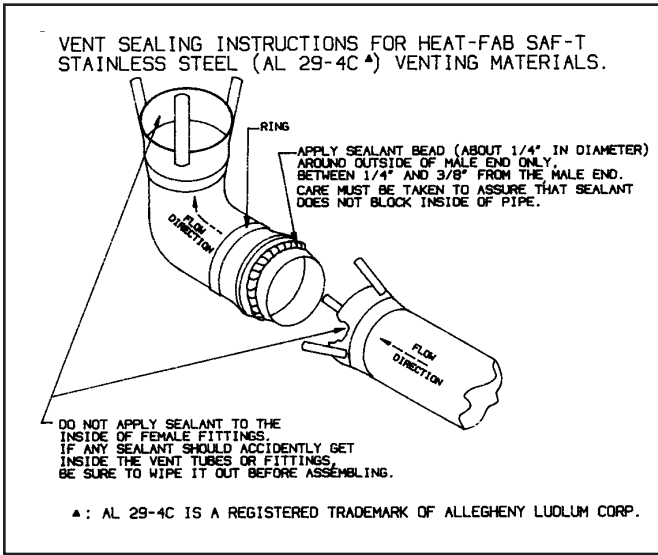

Figure 4. Vent Sealing Instructions
- C) Use GE-RTV 106 or Dow Corning 732 Sealant for sealing of pipe and fittings. See Figure 4 for proper application of vent pipe sealant.